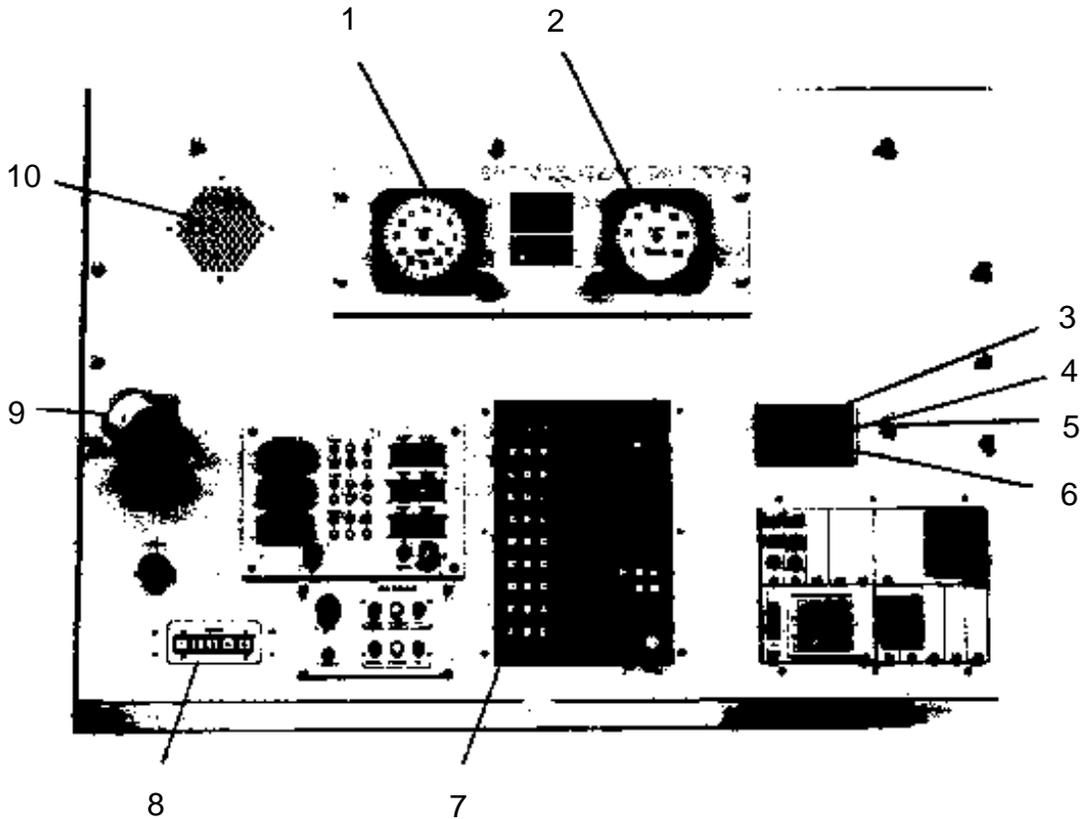

Figure 2-1. ASR Canopy
(1 and 2, figure 2-1)
- DIGITAL CLOCK** Provides a time readout in hours, minutes, and seconds. Set the clock (3, figure 2 -1) from the front panel by placing the S/R (set/run) toggleswitch (6, figure 2-1) to S. This activates the pushbutton switches (4, figure 2-1) and resets the seconds display to zero. The pushbutton switches advance the display digits independently without overflow into the next higher digit. Return the toggle switch to the R position for normal operation.
(5, figure 2-1)
(7, figure 2-1)
(8, figure 2-1)
(9, figure 2-1)
(10, figure 2-1)